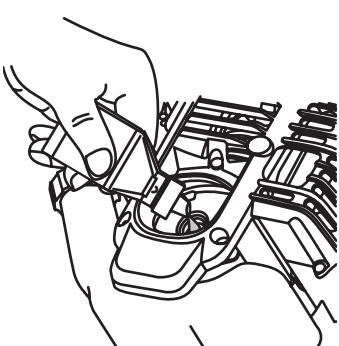

Fig. 43
**NOTE:** Use the bottle and spout saved from initial use to measure the correct amount of oil. The top of the label on the bottle measures approximately 3.04 ounces (90 ml) (Fig. 43). Check the level. See *Checking the Oil Level*. If the level is low, add a small amount of oil and recheck. Do not overfill (Fig. 43).